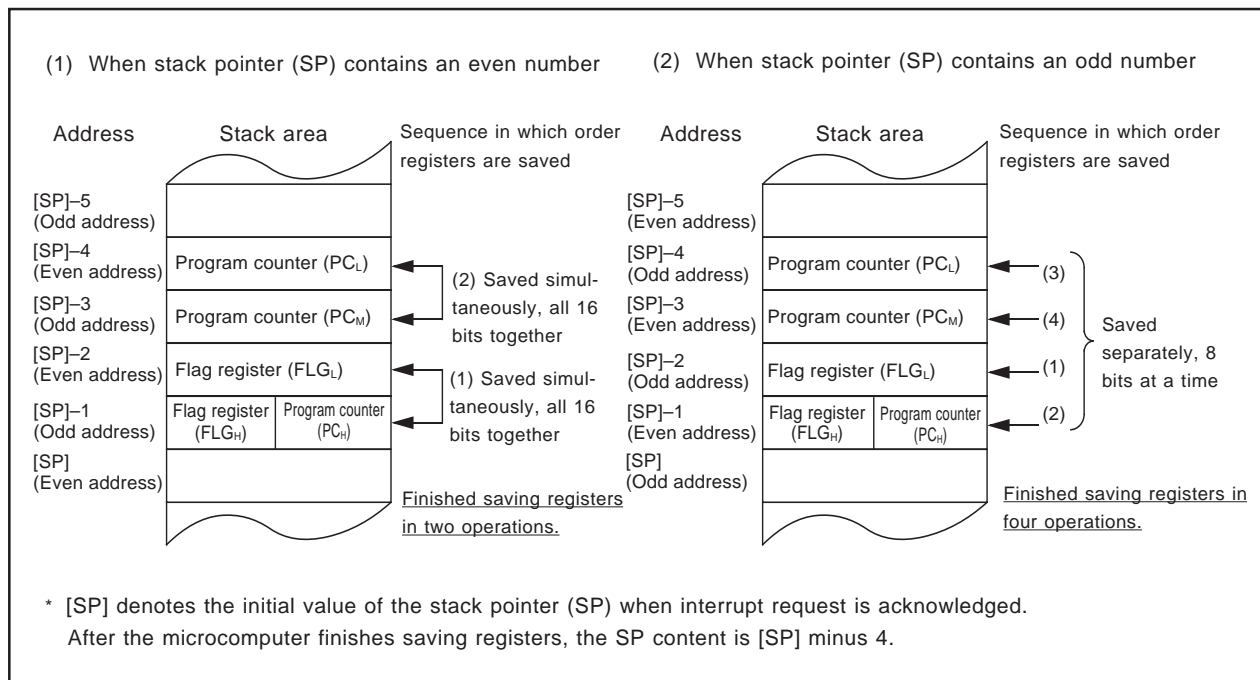

Figure 5.3.3 Operations to save registers
The register save operation performed in an interrupt sequence differs depending on whether the content of the stack pointer (SP)^{*1} is an even or an odd number when an interrupt request is acknowledged. If the stack pointer (SP)^{*1} indicates an even number, the contents of the flag register (FLG) and program counter (PC) each are saved simultaneously all 16 bits together. If the stack pointer indicates an odd number, the register contents each are saved in two operations 8 bits at a time. Figure 5.3.3 shows how registers are saved in each case.